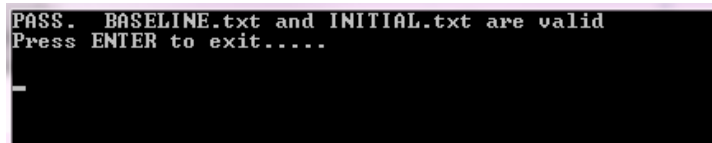

Figure 29. Pass Screen
- 6) From the folder created in step C(6)(a), double click the executable "ParameterBASELINE.exe" copied in step C(6)(b). This will verify that the parameters in INITIAL.txt are correct. A window will appear as in figure 29.